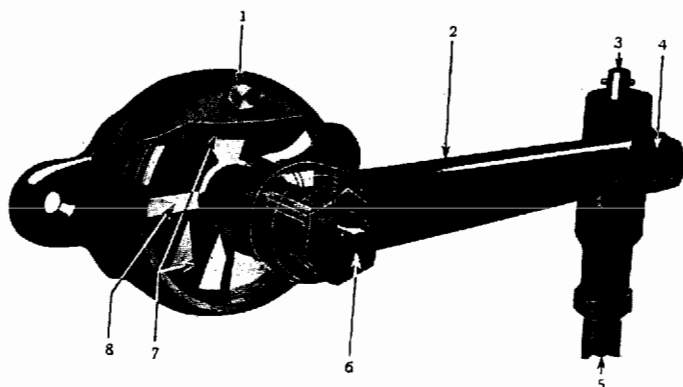

Fig. 51
All Lincoln cars are now being equipped, at the factory with Hoo-dye shock absorbers both front and rear. This shock absorber operates entirely upon the principle of hydraulic resistance. Glycerine is forced from one chamber to another by the movement of wings (7) Fig. 51 inside the working chamber which are operated by the lever (2).